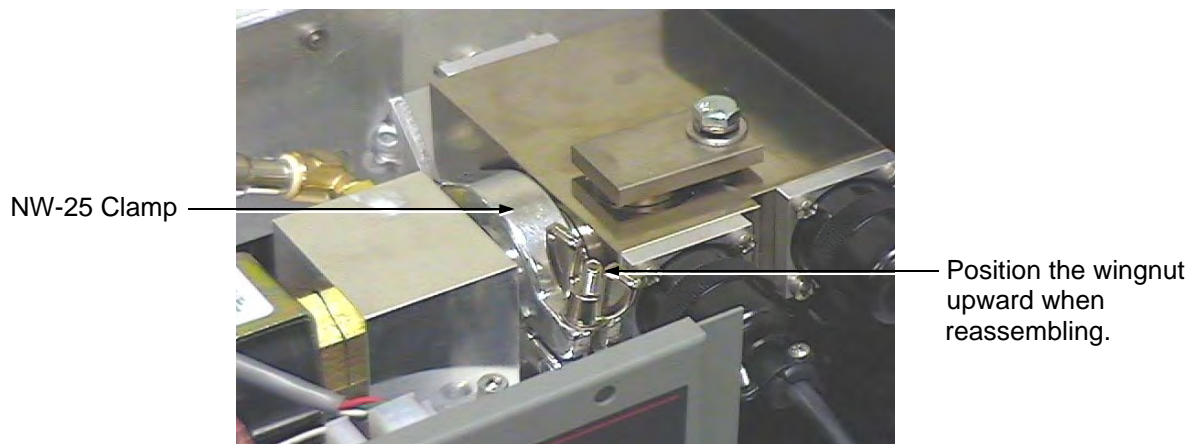

Figure 3-8 Wing Nut and Clamp
4. Loosen the wing nut and remove the NW-25 clamp that holds the spectrometer tube onto the turbo pump (Figure 3-8).